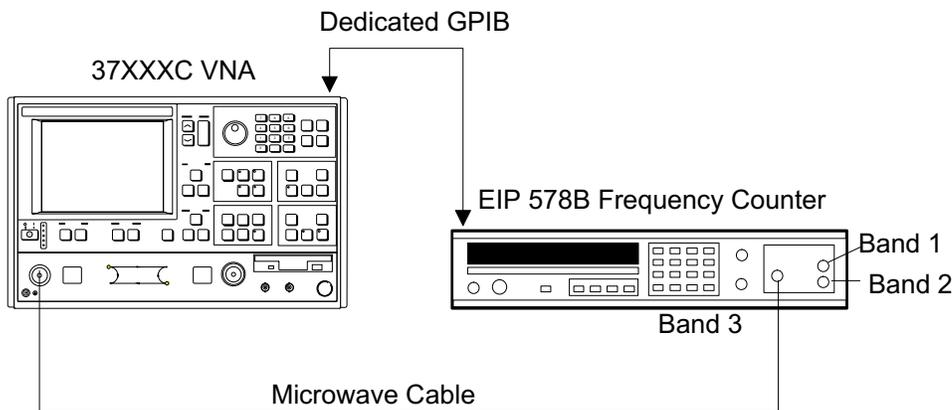

Figure 6-1. Test Setup for Frequency Calibration
- Step 3. Follow the directions displayed on the screen to set-up and connect the frequency counter to the VNA. Refer also to Figure 6-1. Select **START SOURCE FREQ CALIBRATION** from the menu (above).